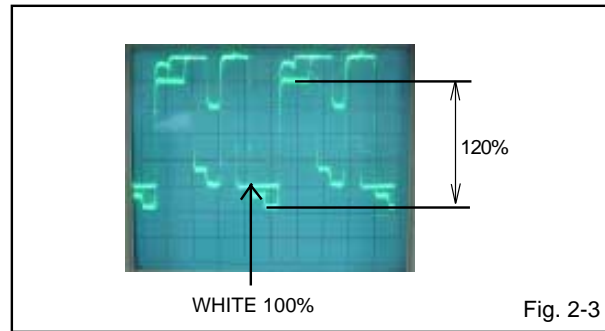

Fig. 2-3
6. Press the VOL. UP/DOWN button on the remote control until the red color level is adjusted to $120 \pm 10\%$ of the white level. (**Refer to Fig. 2-3**)